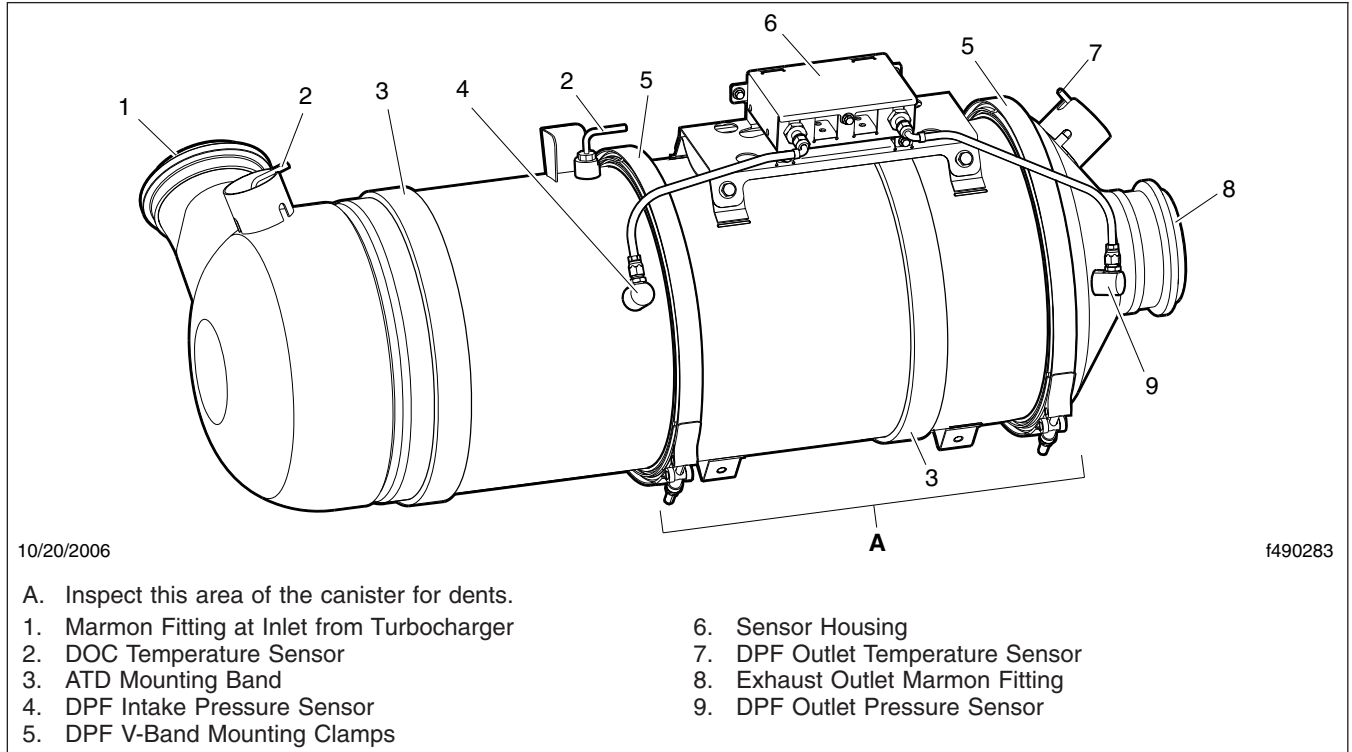

Fig. 7, Typical After-Treatment Device
IMPORTANT: The Environmental Protection Agency's 2007 regulations require lower exhaust emissions, thus requiring new exhaust system components. See Fig. 7. In particular the after-treatment device (ATD), which is part of the after-treatment system (ATS), requires
8. Check the DPF exterior surface for dents or other damage. See Item A of **Fig. 7**. A dent over 3 inches (76 mm) in diameter and 1/4-inch (6-mm) deep could cause internal damage to the DPF, causing it to malfunction.